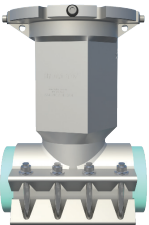
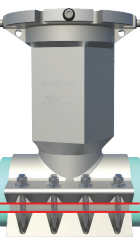

Figure 3
Figure 4
8) Install stainless steel carriage bolts, washers, and nuts (see Figure 3). Finger tighten nuts, ensuring gaps between top half and bottom half of the valve body are the same front-to-back and side-to-side within 1/8" (see Figure 4).